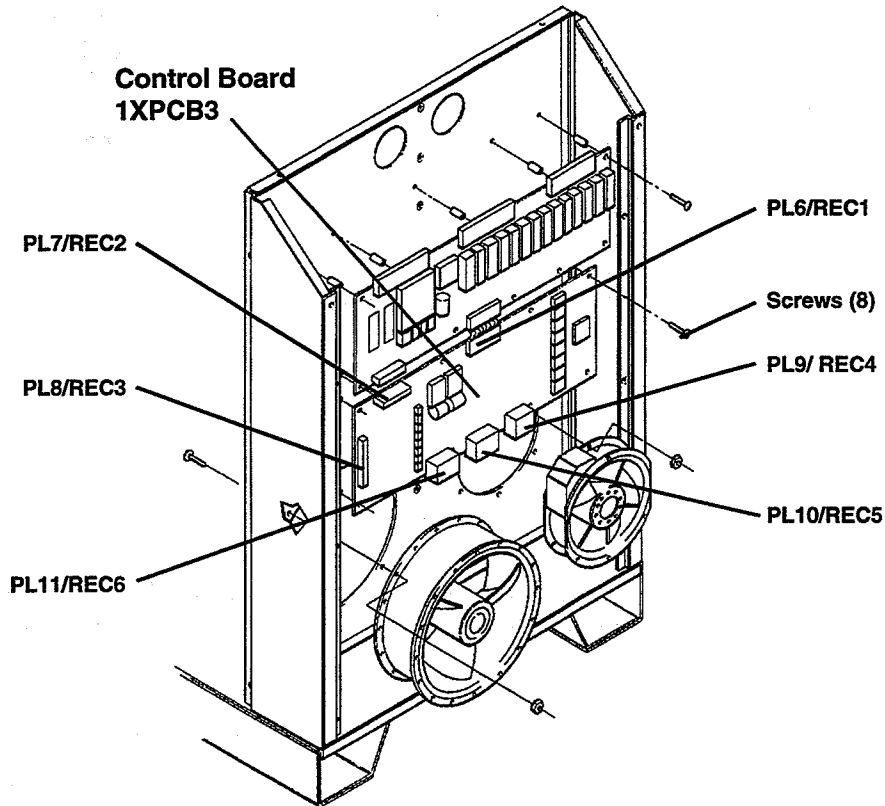

Figure 1 Control Board 1XPCB3 Location
1. Remove front cover from power supply and locate control board 1XPCB3. Fig. 1
4. Install new control board (041491) and secure with eight screws. Reconnect PL6 - PL11 to receptacles. **IMPORTANT: Do not force or bend pins of PLs when reconnecting PL6 - PL11 to the receptacles as shown in Fig. 1. Reconnecting a PL to the wrong receptacle or bending a PL pin could cause a power unit failure.** Replace front cover.